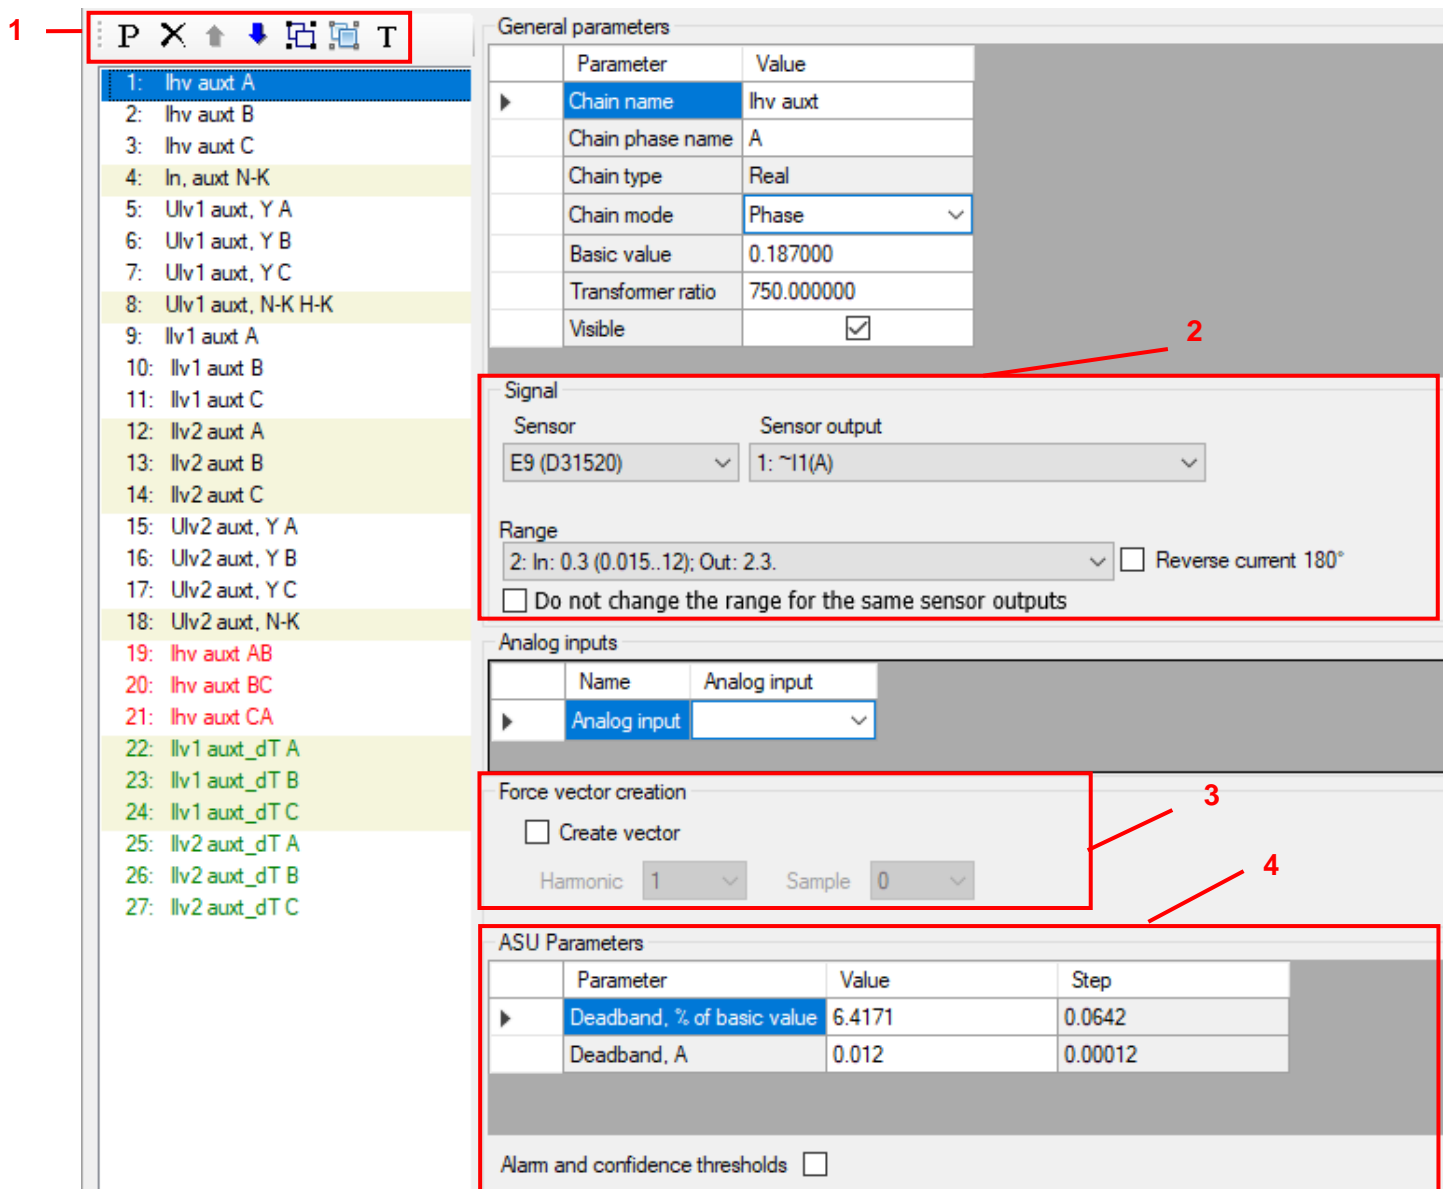

Figure 153 – Analog inputs window
Commands of analog input panel (figure 153, item 1) are shown in table 89.
Signal setting (figure 153, item 2)
Forced phasor creation (figure 153, item 3)
Parameters of signal transmission to PCS (figure 153, item 4)